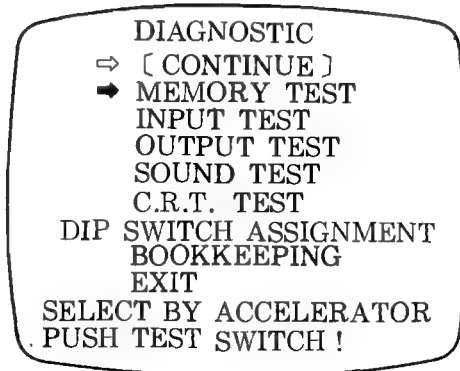

FIG. 1
- (1) Push the test switch and Fig. 1 will be shown on the screen.
- (2) Select CONTINUE or INDIVIDUAL by using the START button.
(4) When each test is finished in the case of CONTINUE, push the TEST button, and it will automatically go into the following test. If the TEST button is pushed in the case of INDIVIDUAL, FIG. 1 is shown. If you want to end the test mode at this time, bring the arrow to EXIT and push the TEST button, and it will return to the ADVERTISEMENT mode.
Every time the TEST button is pressed, the bookkeeping test display is repeated. When the test is finished, push the TEST button to end the test (in the case of "INDIVIDUAL", however, the test mode returns to Fig. 1 first).
In the state as shown in Fig. 1, operate the handle to bring the arrow to EXIT and push the TEST button. The self-testing will then end and return to the ADVERTISING mode.